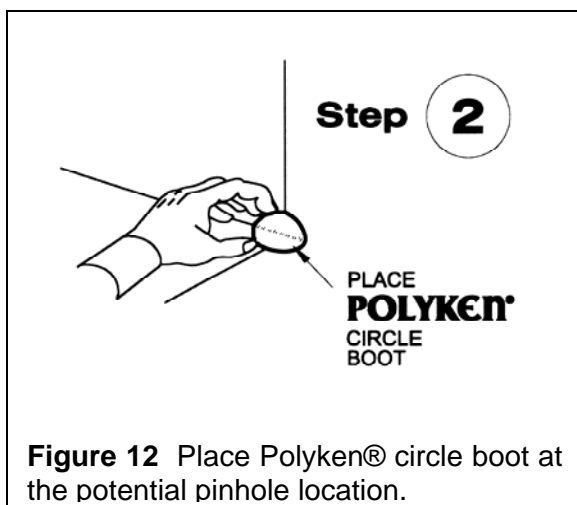

Figure 12 Place Polyken® circle boot at the potential pinhole location.
Step 2. Carefully fit the Polyken® or Nashua® circle boot in place. See Fig. 12.